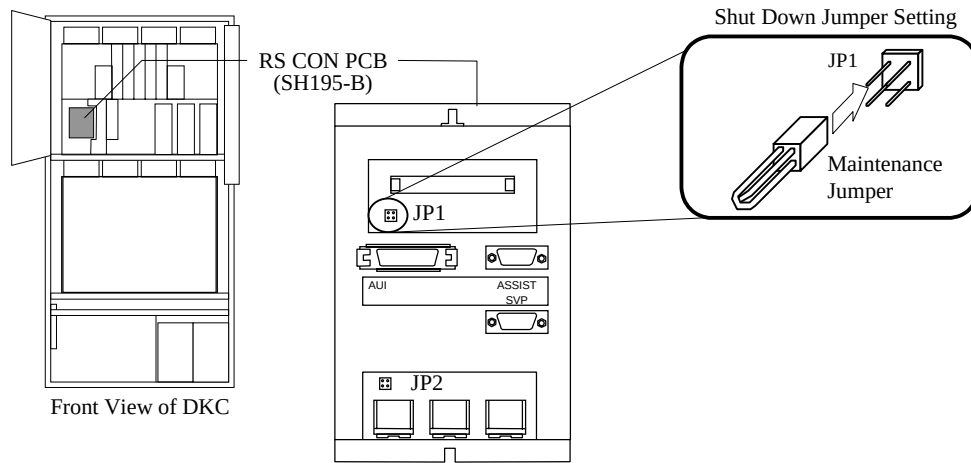

Fig. 4.12-3 Jumper settings of RS CON PCB
- a. Remove the maintenance jumper of the JP1 on the RS CON PCB. (See Fig. 4.12-3.)